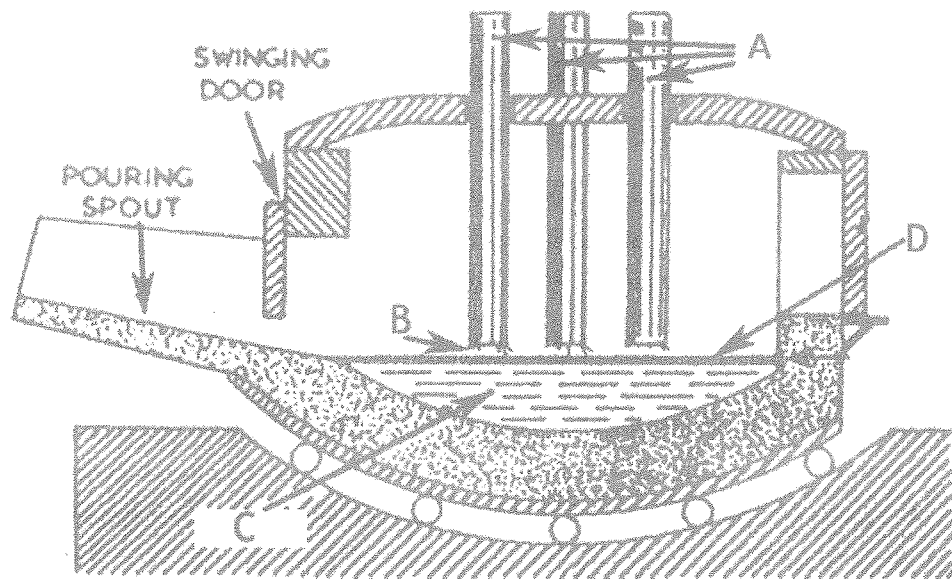

Figure Q2
c) Electric arc furnace has extensively been used for manufacturing of steel. Name the main parts of the furnace indicated as A, B, C and D in Figure Q2 and describe briefly the process of steel making in electric arc furnace.